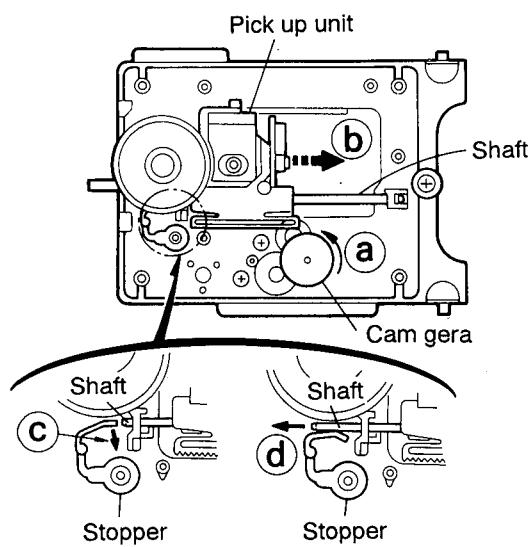

Fig. 2-22
■ Removing the CD pickup unit (See Fig. 2-22)
1. Move the cam gear in the arrow direction ④. Then, the CD pickup unit will be moved in the arrow direction ⑥.
2. According to the above step, shift the CD pickup unit to the center position (Fig. 2-22).
3. While pressing the stopper retaining the shaft in the arrow direction ⑤, pull out the shaft in the arrow direction ⑦ (See Fig. 2-22).